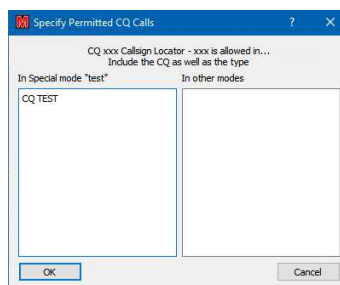

Figure 58 – Configure CQ auto responses
- ‘Config CQ’: Initiates the ‘Configure CQ’ dialogue (Figure 58) to define which CQ calls will result in an auto-response in both (Con)test and non-(Con)test modes so that in a contest there is no automatic response to non-contest calls and vice versa.